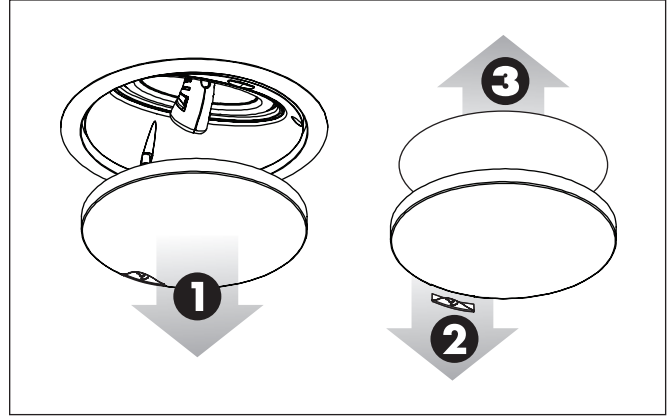

Figure 13. Painting the speaker grill.
- 1 Remove the grill from the Helos 100 (see figure 13).
- 3 A protective scrim is attached to the back of the grill with low-tack adhesive. Remove this scrim by gently pulling it away from the grill cover (see figure 13).